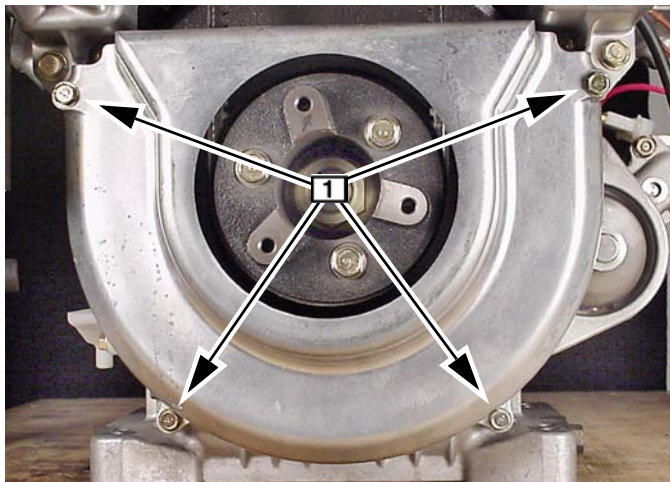

Fig. 160
7. Install flywheel housing, Fig. 160. Torque screws **1** to 60 in. lbs. (7.0 Nm).